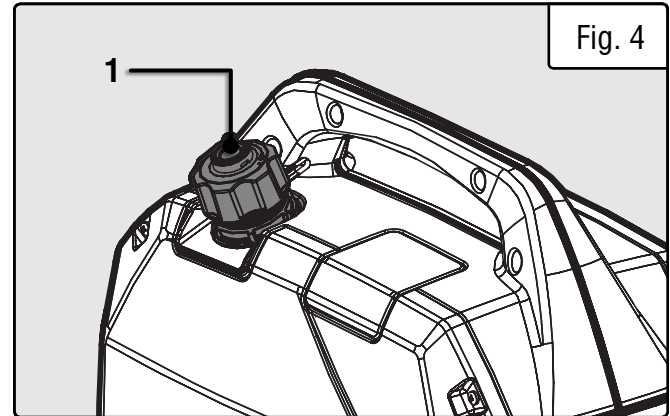

Fig. 4
2. Unscrew the fuel cap (Fig. 4 - 1) and set it aside. The fuel cap may be tight and hard to unscrew.